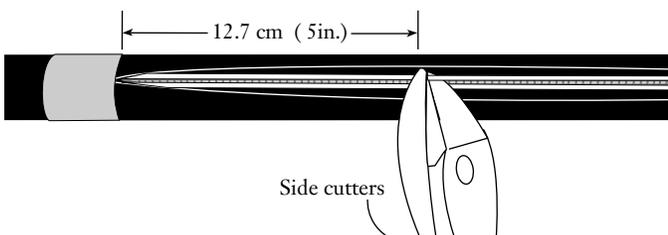

Figure 29
7.6 From each tape wrap, measure the length of each metallic rod as specified by the hardware. Use side cutters to cut all metallic rods to their specified lengths. If the hardware does not specify a length, cut each set of metallic rods 12.7 cm (5 in.) from both tape wraps (Figure 29).